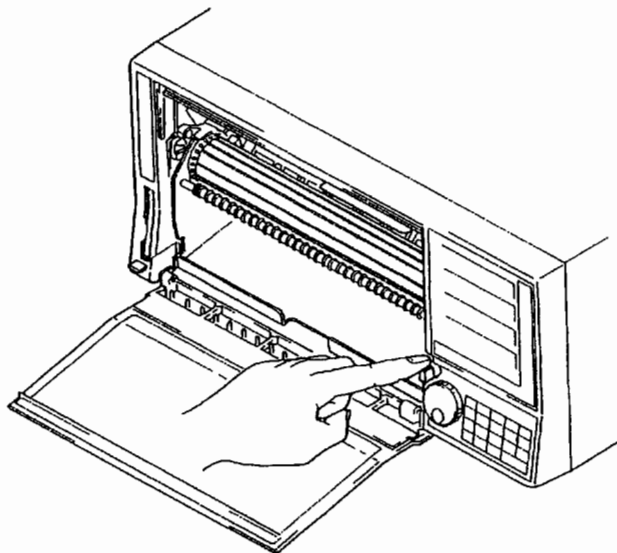

Figure 6.9
- (11) Fit the projections on the chart tray into the notches in the recorder and push the tray toward the recorder until it clicks (See Figure. 6.9).